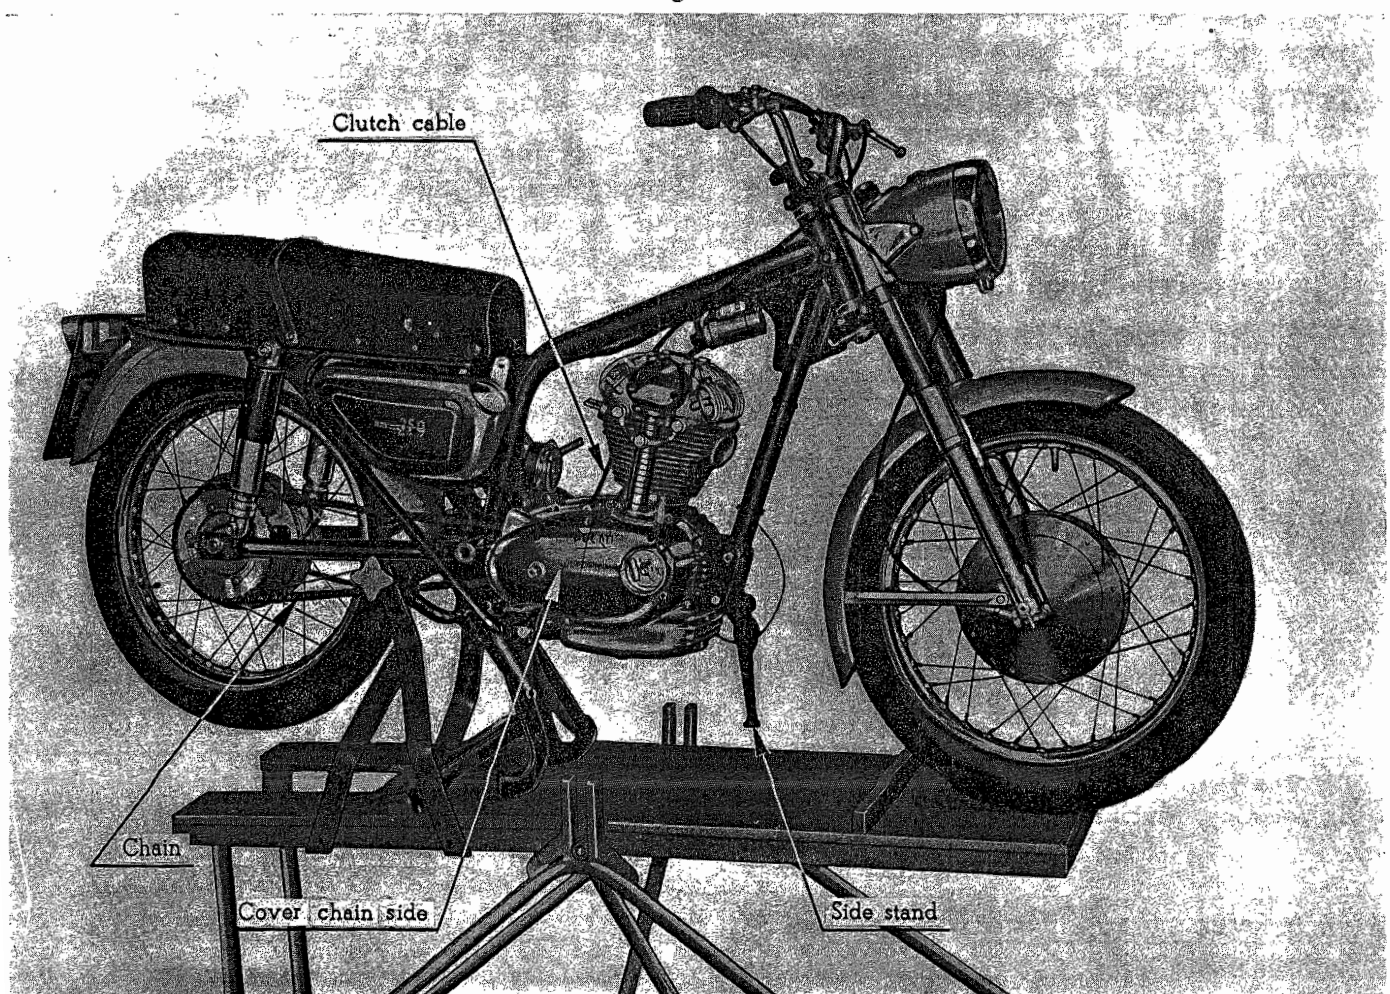

Fig. 128
Carefully manipulate the engine from the right side in such a manner that the rear brackets line up with the hole provided in the crankcase. Then swing over to line up the front mounting with the two (2) brackets provided. Fit the side stand (see fig. 128).
Mount shifting mechanism to engine (see fig. 128) « chain and gearbox side cover ».